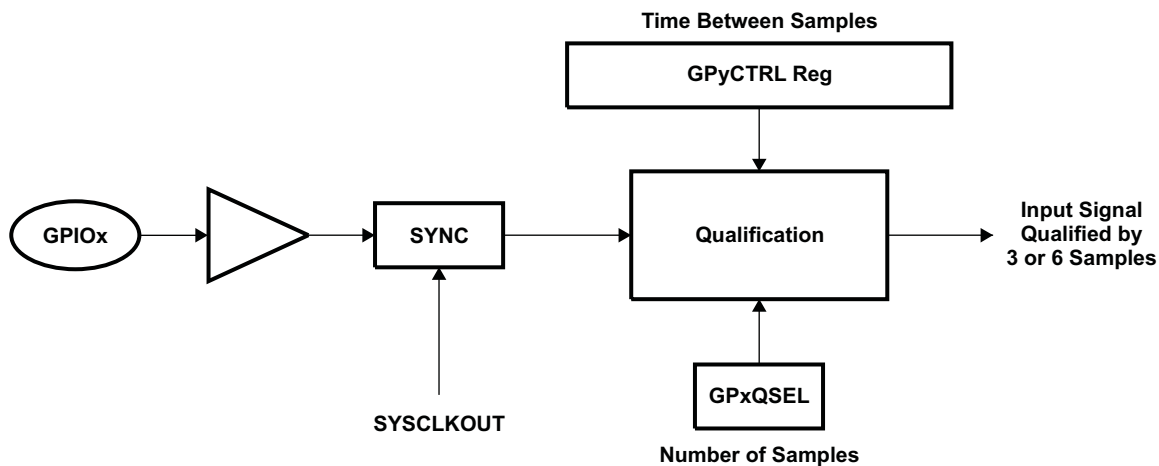

Figure 4-17. Qualification Using Sampling Window
- The sampling period is specified by the QUALPRD bits in the GPxCTRL register and is configurable in groups of 8 signals. It specifies a multiple of SYSCLKOUT cycles for sampling the input signal. The sampling window is either 3-samples or 6-samples wide and the output is only changed when ALL samples are the same (all 0s or all 1s) as shown in Figure 4-17 (for 6-sample mode).